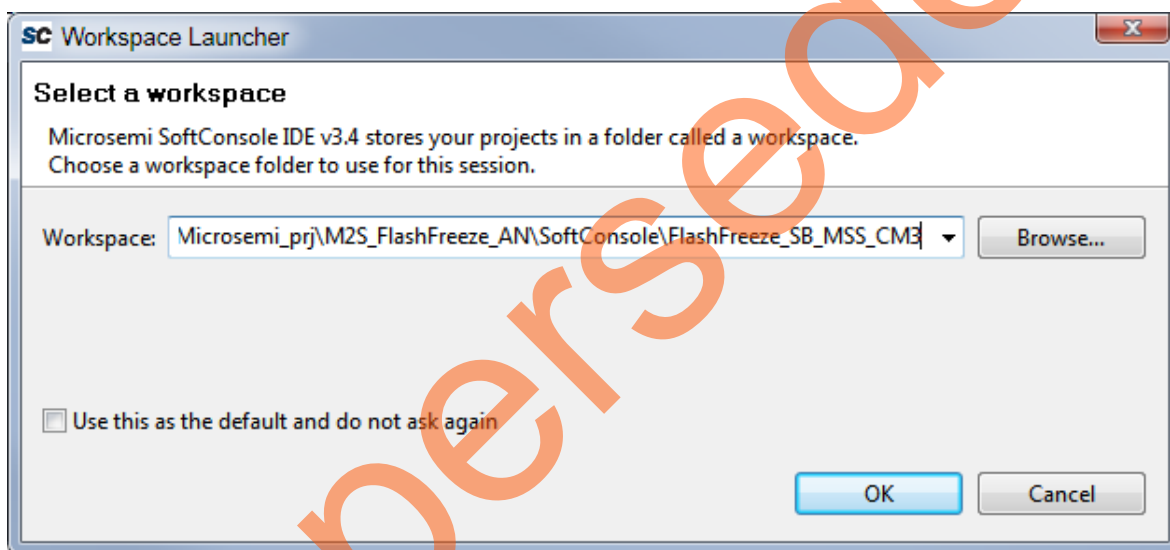

Figure 11 • Specify the SoftConsole Workspace Location
5. Launch the SoftConsole v3.4 SP1 and specify the Workspace to point to the SoftConsole folder project where the Libero project is located, refer to Figure 11.